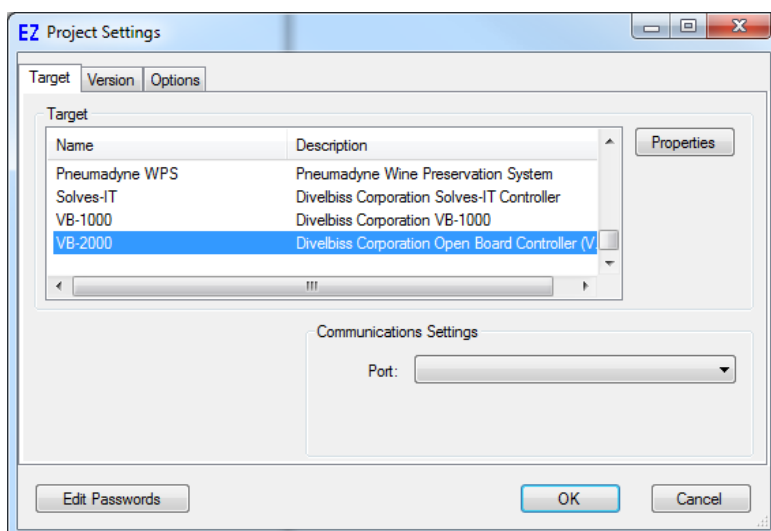

Figure 1-1 - Project Settings Window
1. In EZ LADDER, from the File Menu at the top, click **PROJECT** then **SETTINGS**. This will open the Project Settings Window. Select **VB-2000** as the target from the choices. Refer to Figure 1-1. Verify the correct COM Port is selected.